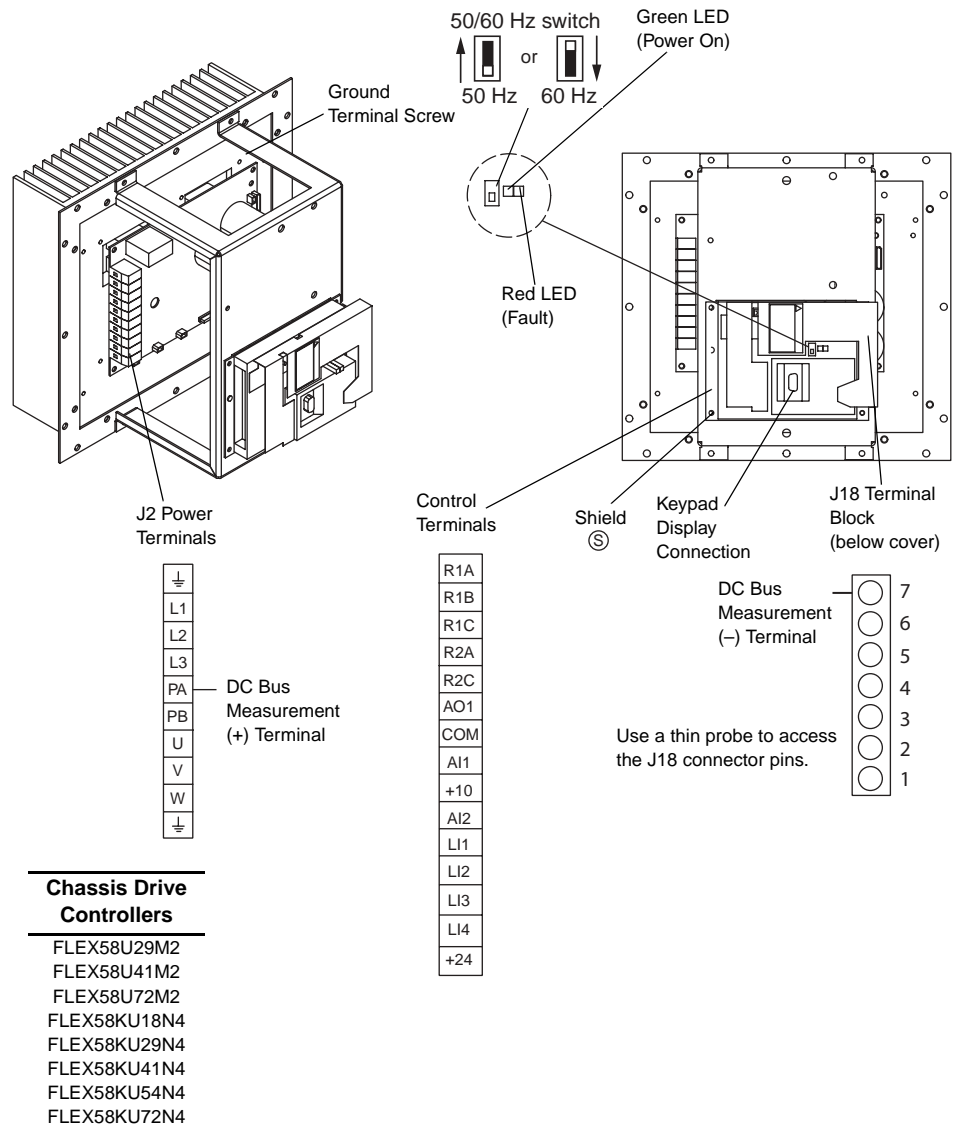

Figure 10: FLEX58U29M2-U72M2 and FLEX58KU18N4-KU72N4
4. Read the model number of the power converter from the nameplate, and identify the corresponding (+) and (–) measurement points from Table 18 and Figures 10 to 13 on pages 36 to 39.